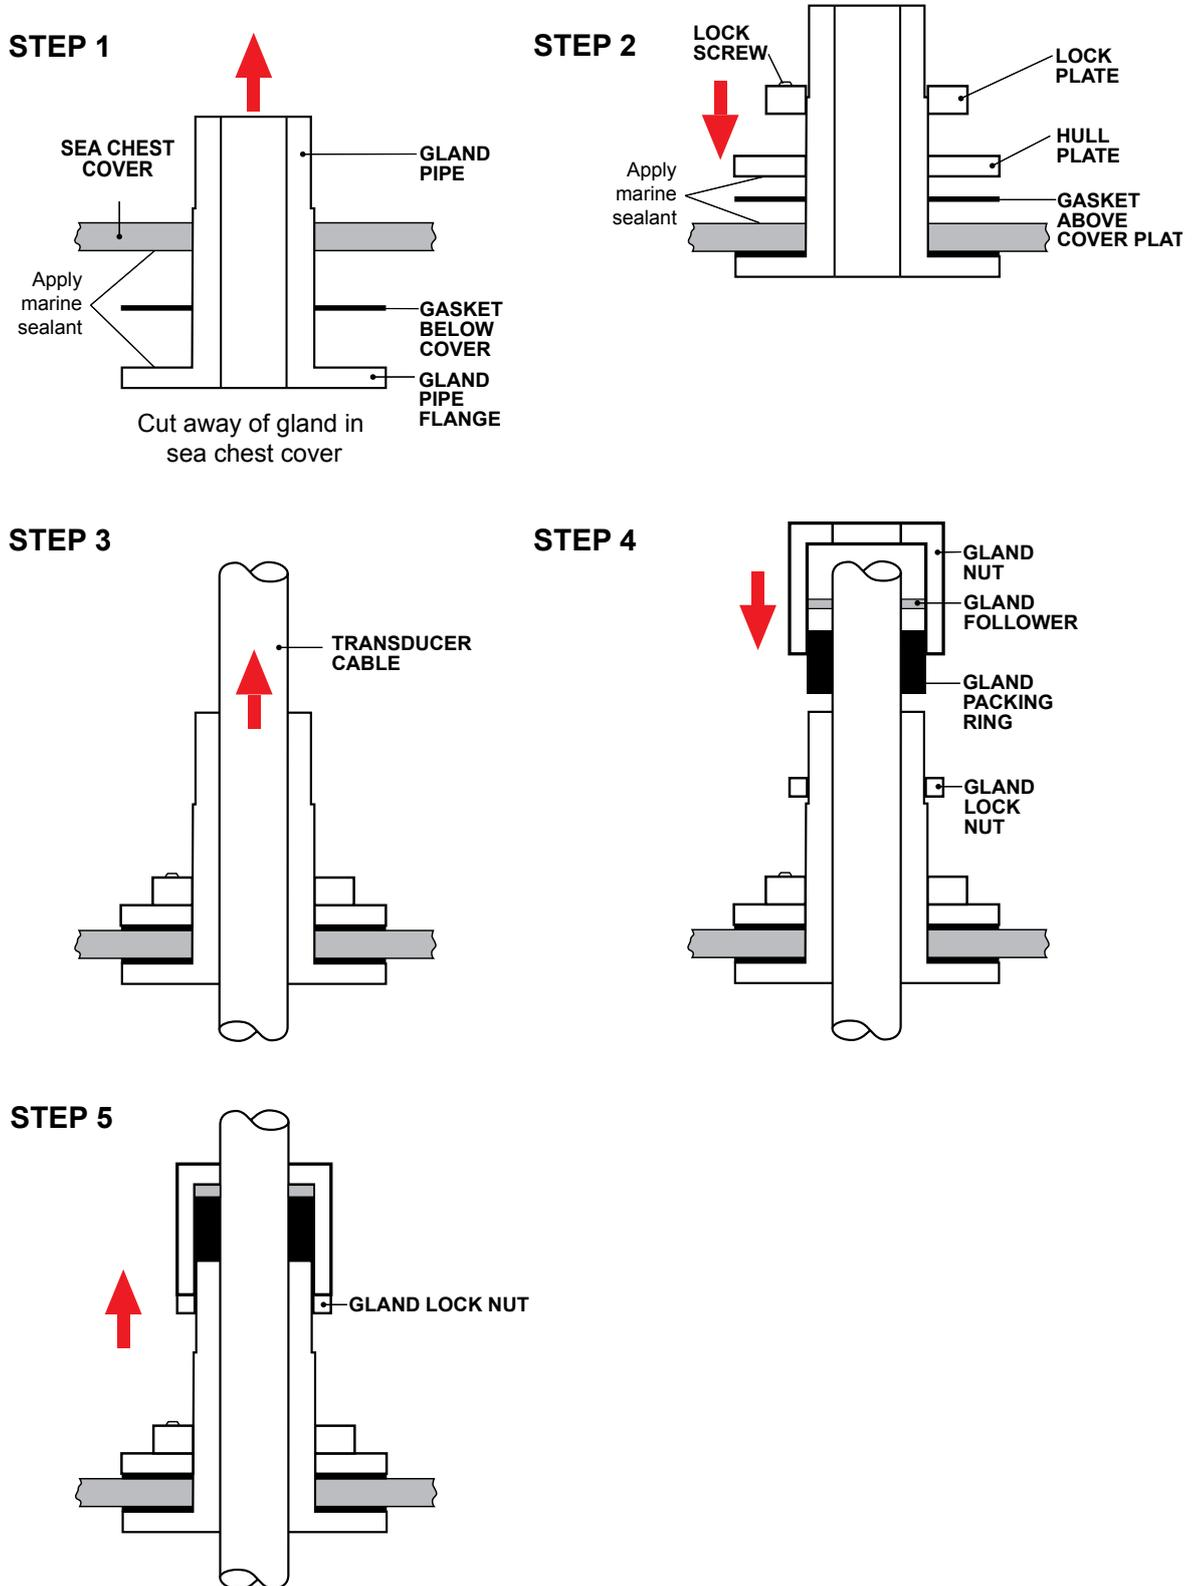

Figure 12 – Mounting the Gland Assembly
See Figures 12 and 13.
**STEP 1** Place the bottom gasket over the gland pipe and apply marine sealant to both sides of the gasket. See Figure 12.
Complete fitting and tightening the gland as shown in Figure 12 above.